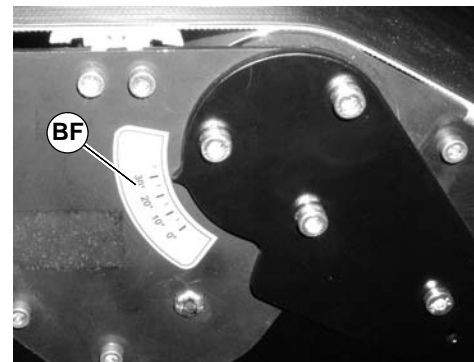

Figure 42
3. Move conveyor to desired angle as indicated by angle label (BF of Figure 42).